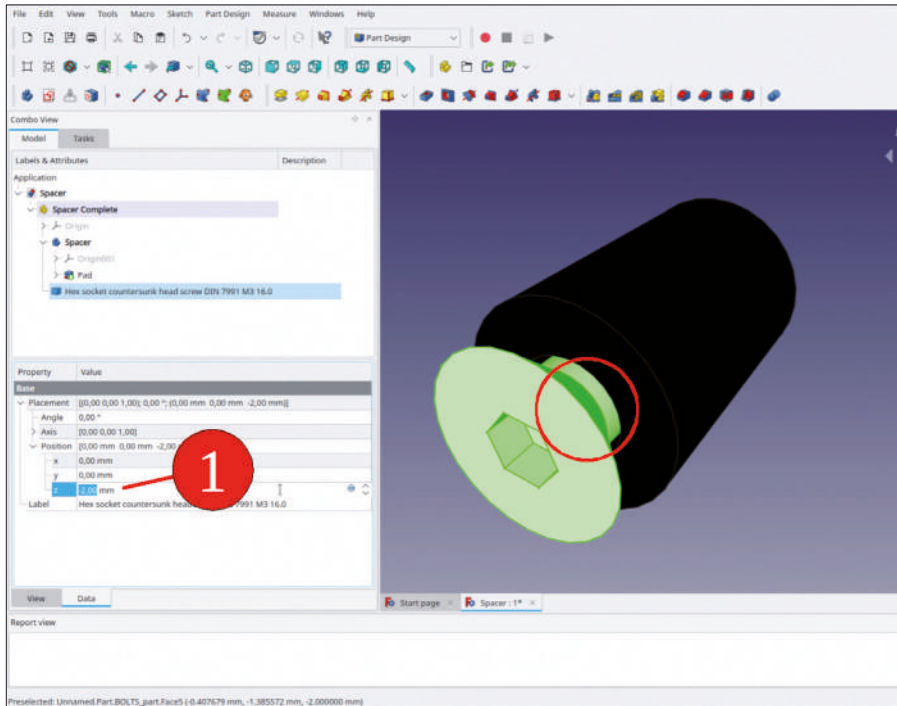

Figure 4-13
6. The position of the screw is still unsatisfactory. When a 2-mm aluminum sheet is usually taken for the chassis, it is useful to move the screw to the correct position right away. In this simple case, you do not have to define attachments. Simply click the edit field for z and roll the mouse wheel, or enter the value of -2.01 mm manually, with the small offset of 0.01 mm added for the clear display of the screw (Figure 4-13). The resulting offset of the screw with respect to the spacer is displayed in the 3D view with an immediate update.